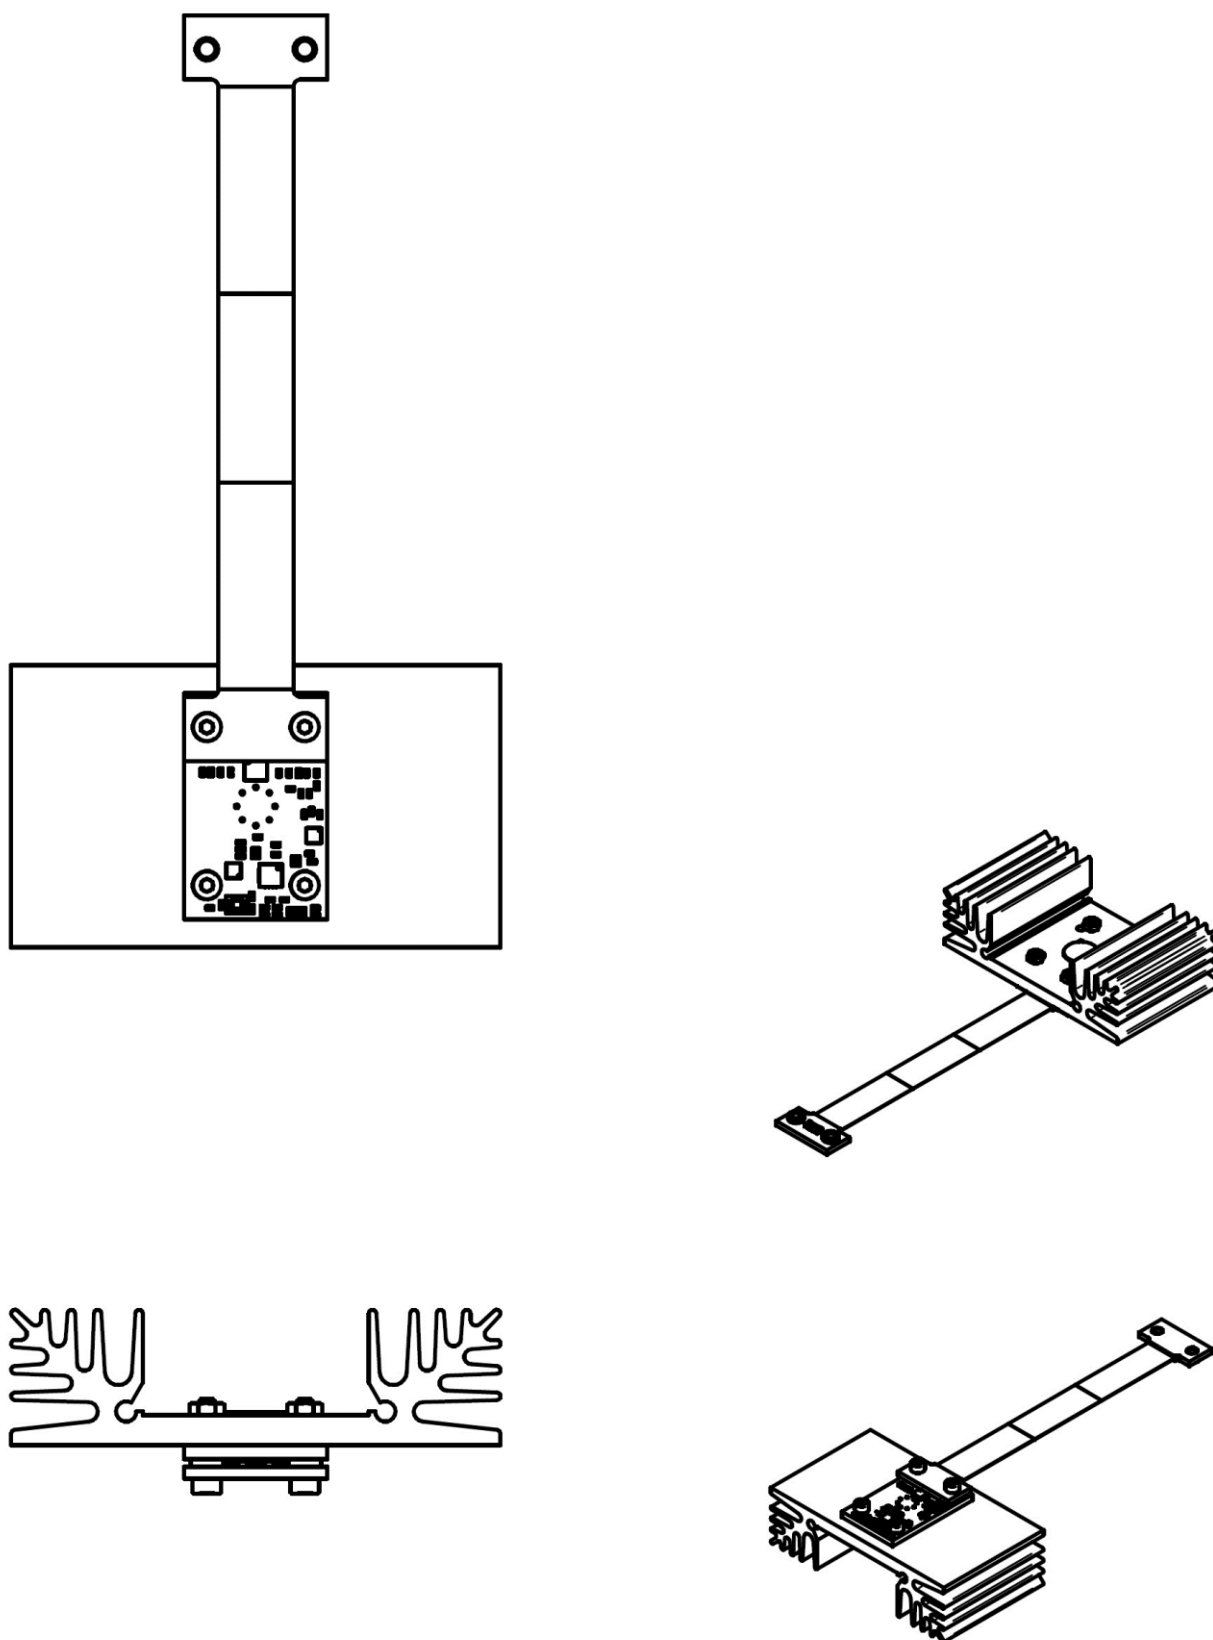

FIGURE 21. Example application of AMS3140-01/AMS6140-01 with flexible PCB
The second source of heat is the electronic components on the bottom of the PCB. For applications with high cooling power, it is recommended to leave the bottom side of the module uncovered. An example of such a solution is presented in FIGURE 21.
- Semi-flexible PCB. Receptacle *Amphenol 101R014FB110* has to be placed on the rigid part and the flexible part can be used to connect signals and power supplies to another PCB (FIGURE 21).